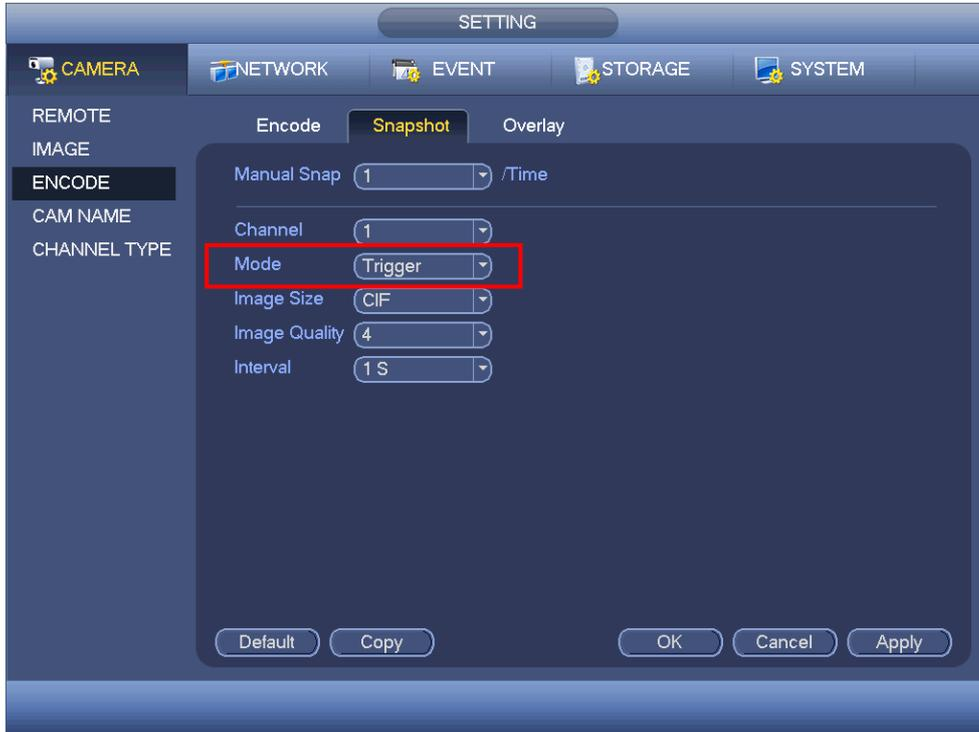

Figure 4-118
- In main menu, from Setting->Camera->Encode->Snapshot interface, here you can input snapshot mode as trigger, size, quality and frequency. See Figure 4-118.